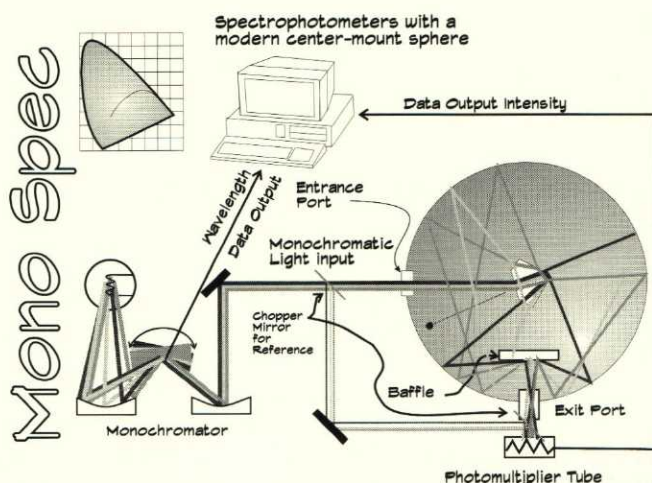
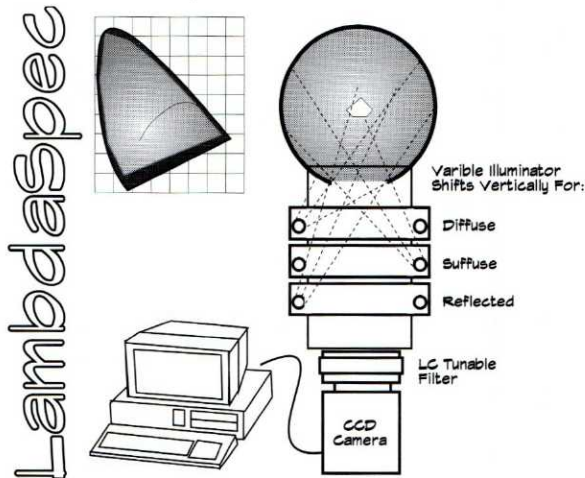

Fig.6 By illuminating one wavelength at a time, the true color of a diamond can not be measured.
Fig.7 The variable illumination provides for different appearances in gems due to lighting.
**Monochromatic Spectrophotometers (Fig 6)**
At Tucson '95, LambdaSpec (Fig 7) of Milwaukee presented its new method (Fig 6)